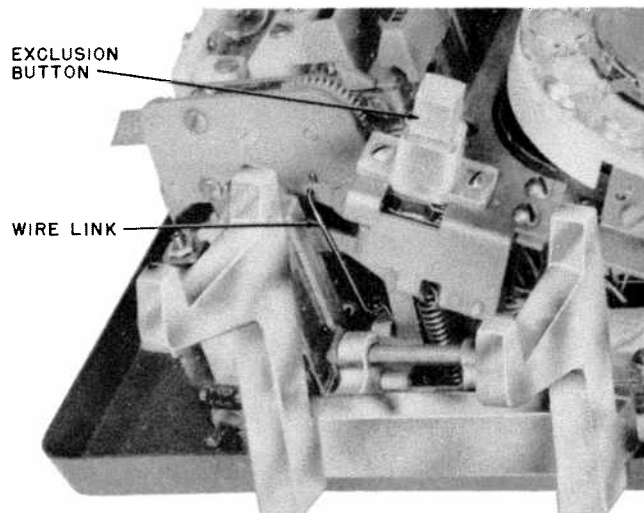
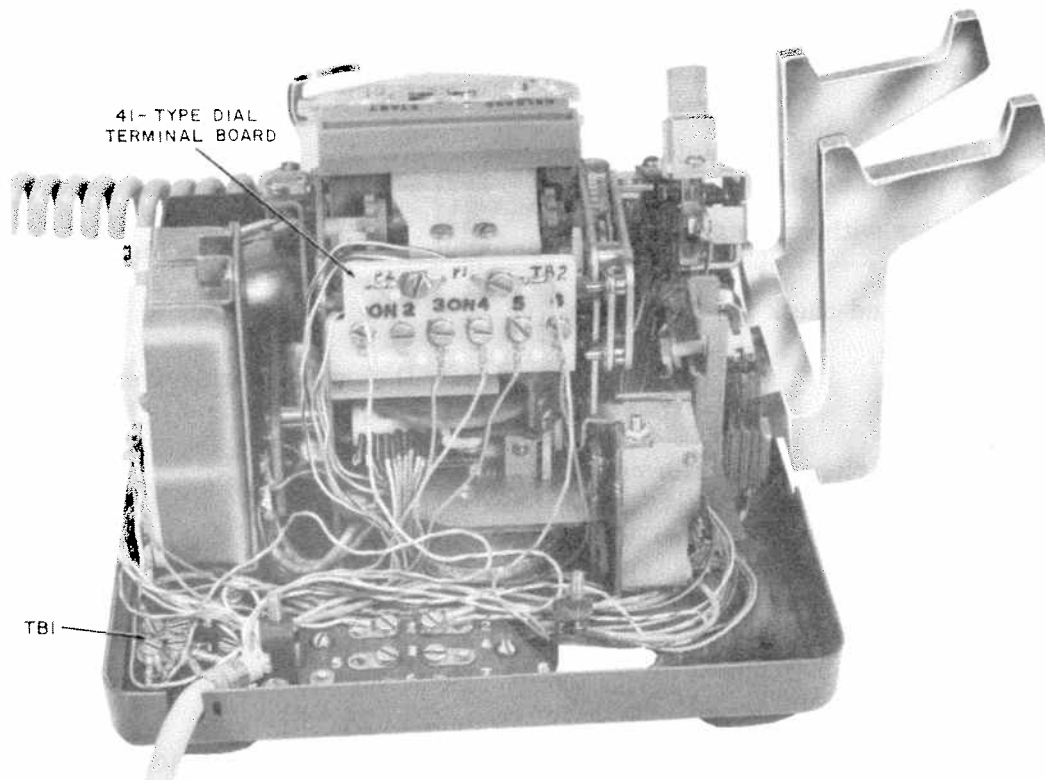

Fig. 5 — Exclusion Switch Assembly
Fig. 6 — 660-Type Telephone Set, Terminal Boards
- (1) Remove 8C dial.
- (2) Attach exclusion switch assembly to dial adapter with two screws provided. (See Fig. 5.)
- (3) Dress exclusion switch leads along left side of 41-type dial and between control relay and switch hook assembly so that terminal board is in position at rear of set.
- (4) Connect wire link to exclusion switch assembly by placing end of wire link having two 90 degree bends into hole provided in switch assembly. (See Fig. 5.) Start link from left side of assembly.
- (5) Remount 8C dial making sure that wire link enters hole provided in switch hook assembly. Tighten dial mounting screws.
- (6) Mount terminal board to base with screws provided. (See Fig. 6.)
- (7) Replace D6AF cord with D10L cord.
- (8) Replace faceplate with one providing an opening for exclusion button.
- (9) Replace housing and check set for proper operation.
- (1) Remove dial from set as shown in 3.03.
- (2) Disconnect spade tipped dial leads.
- (3) Loosen two screws holding dial to adapter, and remove dial.
- (4) Attach replacement dial to adapter making sure dial is positioned properly.
- (5) Reterminate dial leads.
- (6) On sets with exclusion, start wire link from exclusion switch into hole on switch hook assembly. (See Fig. 5.)
- (7) Slide slots of dial adapter under dial mounting screws.
- (8) Move dial to right as far as possible and tighten screws.
- (9) Check operation of 8C dial and exclusion switch if provided.
- (2) Disconnect wiring from terminal strip on rear of dial (Fig. 6).
- (3) Turn set on side and remove three screws holding dial to baseplate. Dial can now be removed.
- (4) Place new dial in position taking care not to pinch any wiring between dial and baseplate.
- (5) Fasten dial to baseplate with three mounting screws.
- (6) Reterminate leads to dial on terminal strip.
- (7) Reconnect power supply.
- (8) Using properly coded card, check operation of the dial.